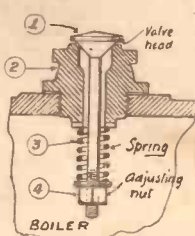

Fig. 3.—The safety-valve.
Obviously, we cannot use a valve made of a cork held by an elastic band. The model safety-valve is usually a metal fitting (Fig. 3), comprising at least four parts, (1) the valve, (2) the valve body, (3) the spring, (4) the adjusting nut. Of course, there are more complex and better types of safety-valves used in larger steam plants, but this sketch illustrates the simple model safety-valve. In some cases, a washer made of a comparatively hard rubber compound is employed between the valve and the steam orifice, to obtain a better degree of steam tightness. It is a little difficult to make a good metal-to-metal joint when steam pressures are very low and the valve is very small.